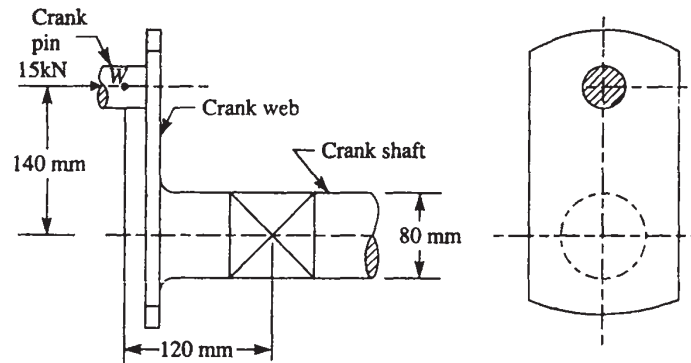

Fig. No. 1
- a) An overhang crank with pin and shaft is shown in Figure No. 1. A tangential load of 15 kN acts on the crank pin. Determine the maximum principal stress and the maximum shear stress at the centre of the crankshaft bearing.